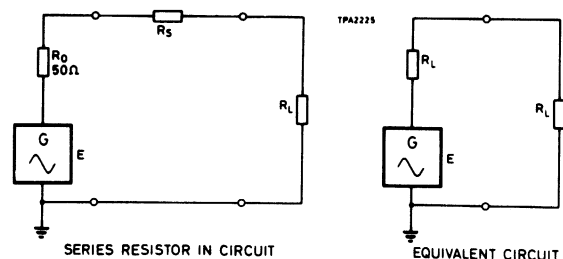

Fig. 4 High impedance matching.
16. To match a load that is greater than 50 Ω to the output of TF 2016A a resistor R_s is required to be added in series with the generator output as in Fig. 4. The value of R_s is given by the difference between the load and the generator impedances, i.e.
Circuit diagram : Chap. 7, Fig. 4 (A1 & A2)